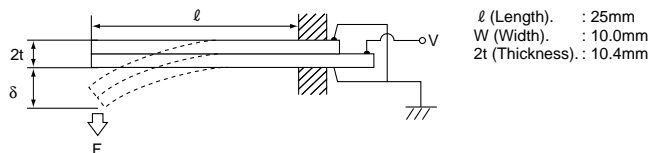

Fig. 1
■ Characteristics (Construction in Fig.1)